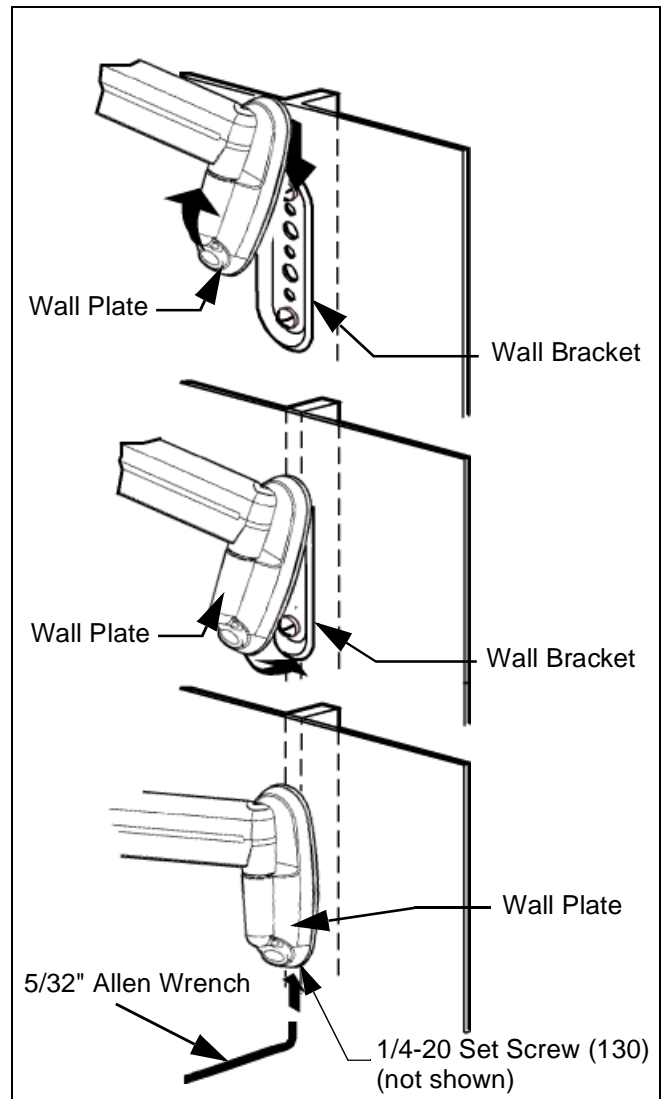

Figure 3: Install KWE-110 on Wall Bracket
1. Tilt top of wall plate towards wall and align over top of wall bracket (90). (see figure 3)
2. Lower top of wall plate down on to top of wall bracket (90) until recessed area on rear of wall plate is seated on top of wall bracket (90). (see figure 3)
3. Move bottom of wall plate forward until covering wall bracket (90) and resting on wall.
4. Tighten 1/4-20 set-screw with a 5/32" allen wrench to secure KWE-110 to wall bracket (90). (see figure 3)